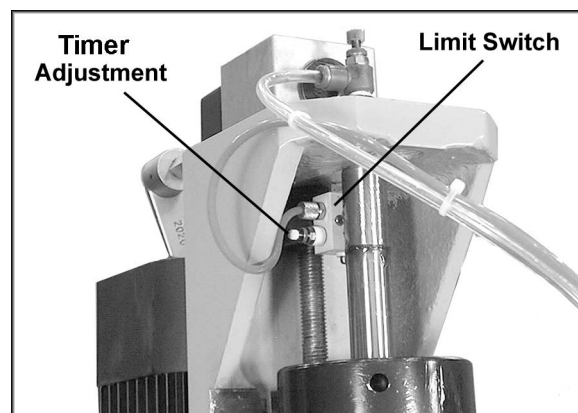

Figure 16
The boring depth limit switch, shown in Figure 16, has a "timer" adjustment knob for delaying the retraction of the boring head; that is, how long the bits remain engaged in the workpiece before the boring head rises.
1. Loosen the knurled nut on the timer adjustment knob (Figure 16).